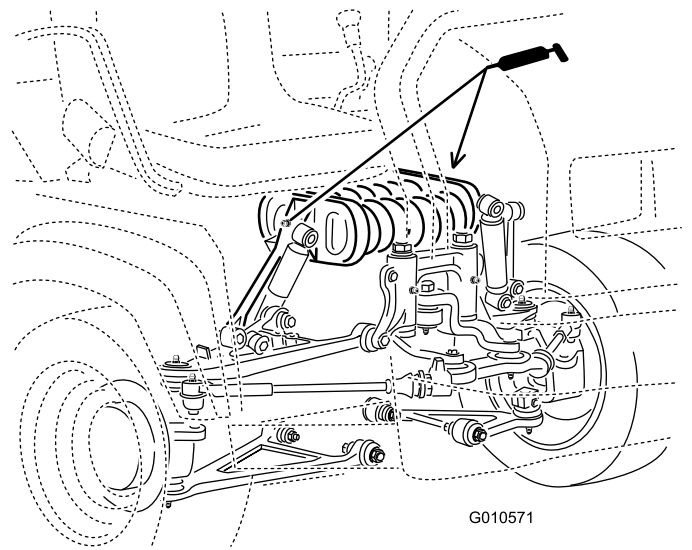

Figure 39
- Tour de ressort (2) (Figure 39)